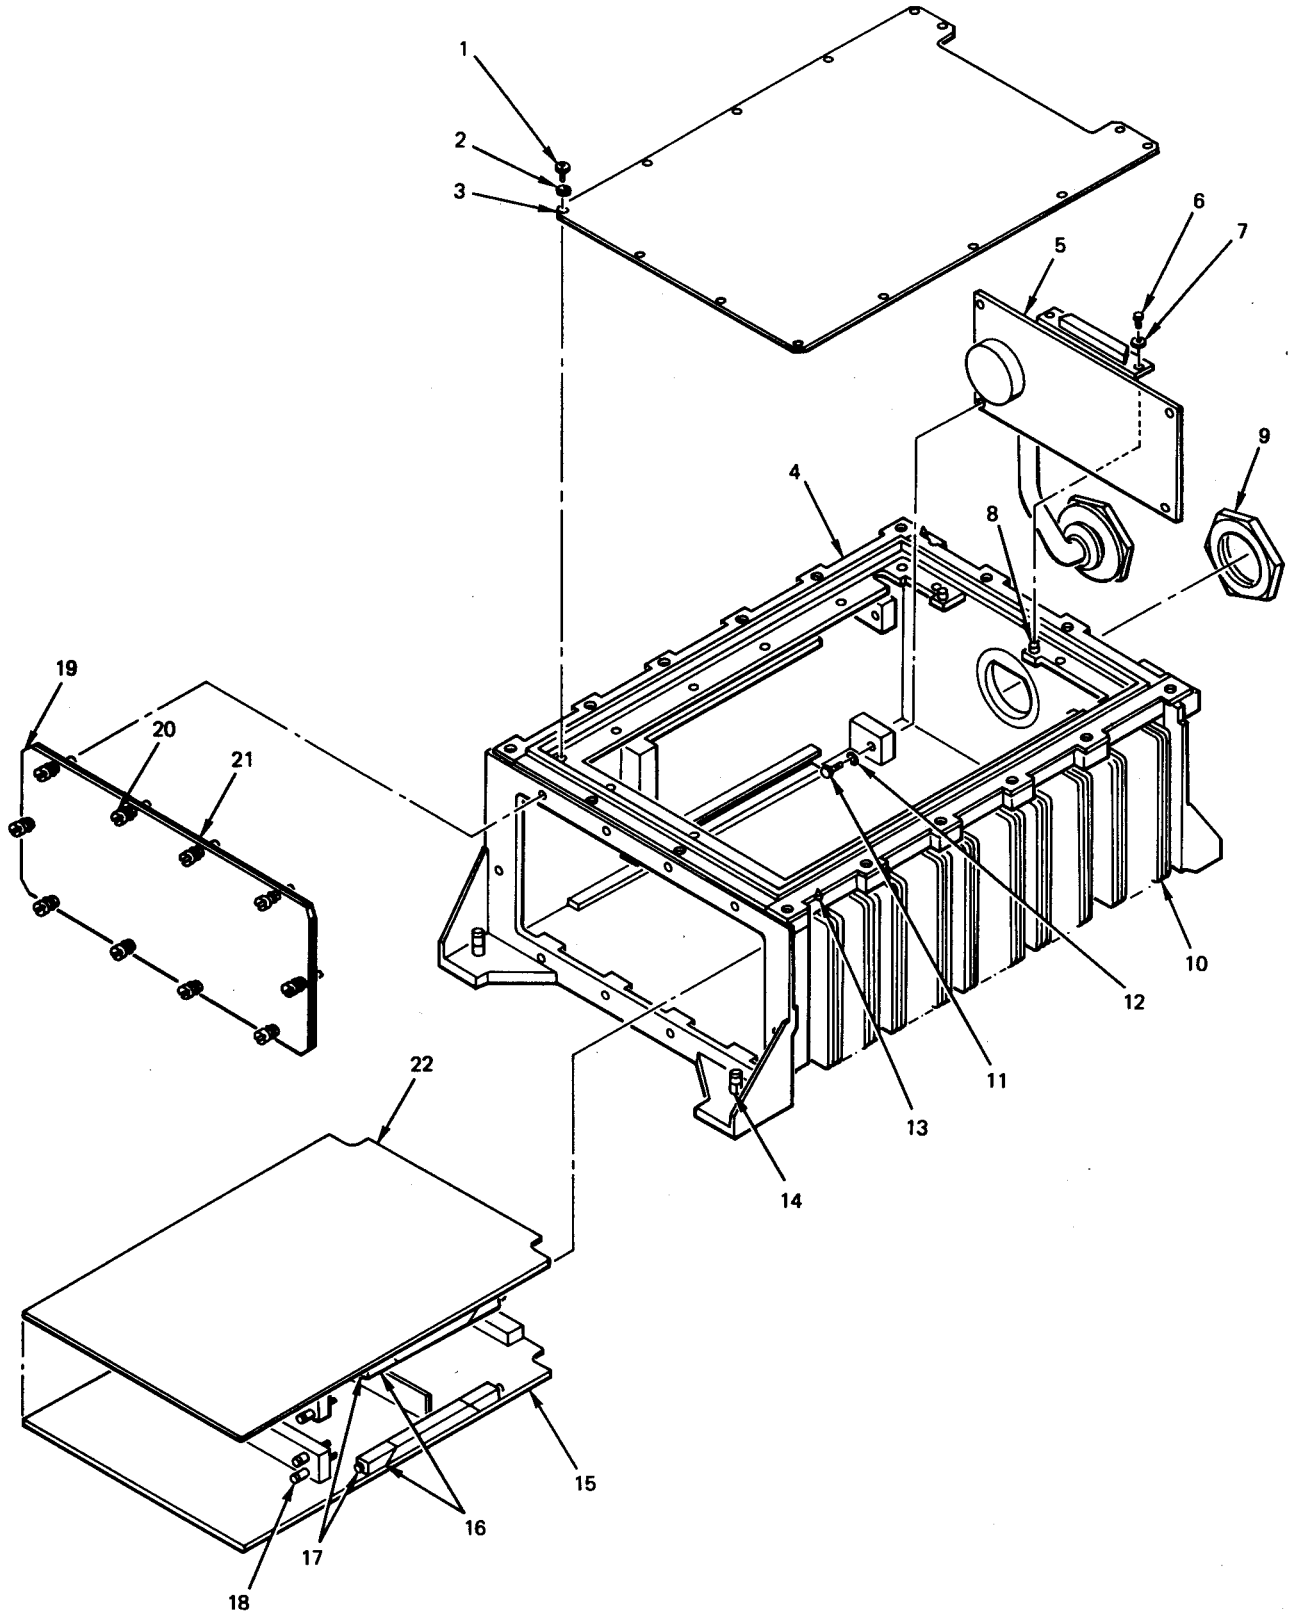

Figure 4-15. Computer Power Supply Exploded View
- (i) Torque 16 screws (2) and washers (1) securing computer cover (3) to computer subassembly (10) 16 inch-pounds using procedure described in paragraph 3-11.
d. Computer Power Supply Repair. Computer power supply repair consists of removal and replacement of circuit card assemblies, guide pins, captive screws, RFI gasket, and repair of the wiring harness. Replacement of the guide pins and captive screws are described in paragraph 3-15. Replacement of RFI gaskets is described in paragraph 3-13. See figure 4-15 for an exploded view of the computer power supply. Refer to table 4-21 for circuit card identification. Replacement of the circuit card assemblies and repair of the wiring harness is described in the following paragraph.
(1) 5V power supply circuit card assembly A1 and F&tier supply circuit card assembly A 2. Remove and replace 5V power supply circuit card assembly A1
(15, figure 4-15) or 15V power supply circuit card assembly A2 (22) as follows:
Legend for Figure 4-15
(2) Wiring harness A3 Remove, repair, and replace wiring harness A3 (5, figure 4-15) as follows: